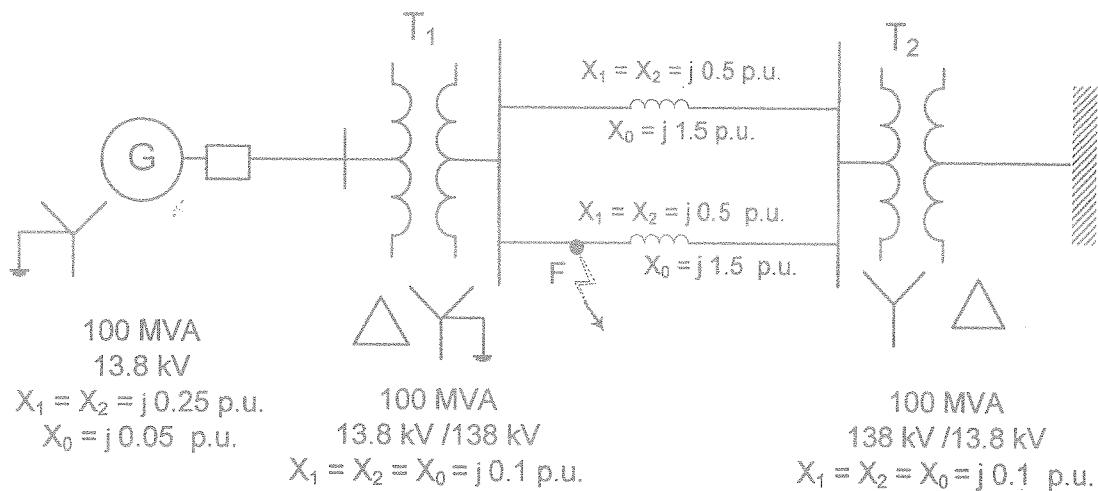

Figure Q1
- b) A single line diagram of a power system is shown in Figure Q1. The neutrals of the generator and the transformer T_1 are solidly grounded.
- i) Draw the per unit sequence network diagrams for the single line diagram shown in Figure Q1.
- ii) Calculate the fault current, for a line to line to ground(L-L-G) fault from phase 'b' to phase 'c' to ground at the point F in the power system shown in Figure Q1. Assume that the pre-fault voltage at the generator is $1.2 \angle 0^\circ$ per unit.